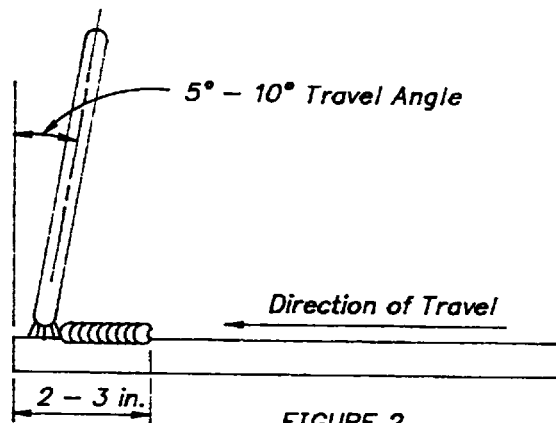

FIGURE 2
- b. Start the weld 2 to 3 inches from the end of the joint and weld back to the start of the joint. Strike the arc in the weld groove and use a 5 to 10 degree travel angle (see figure 2) with a medium arc length. Backfill all craters and back up 1/4 inch, slowly withdrawing the rod and allowing the arc to extinguish itself.